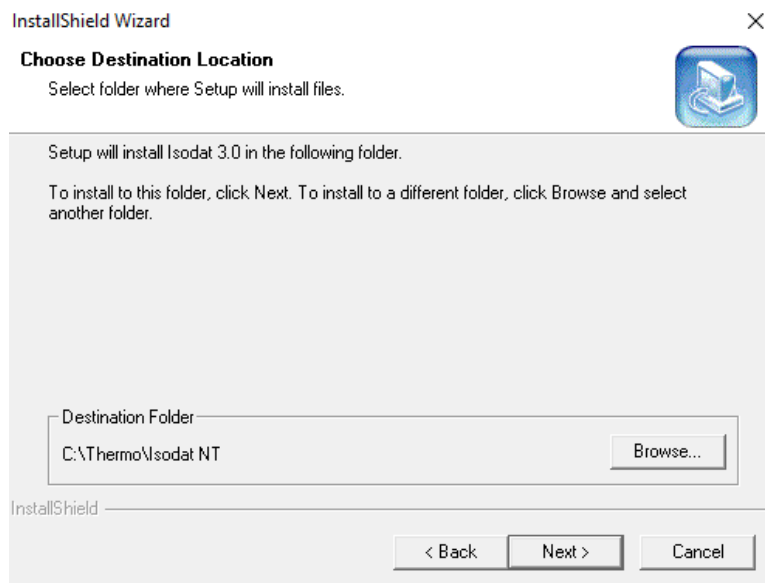

Figure 3-8. Isodat installation - Destination Location
11. Accept the Destination Folder for the Isodat installation. Click **Next**, see Figure 3-8.